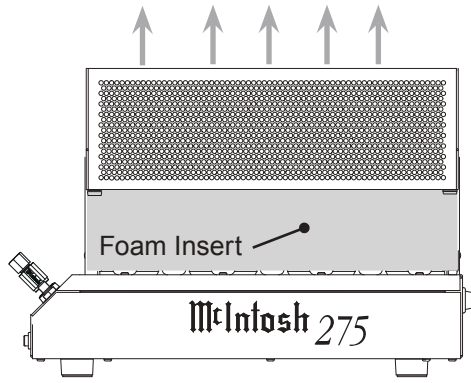

Figure 4
4. Carefully lift up and remove the Foam Insert from the MC275 exposing the Tubes. Refer to figures 4 and 5.